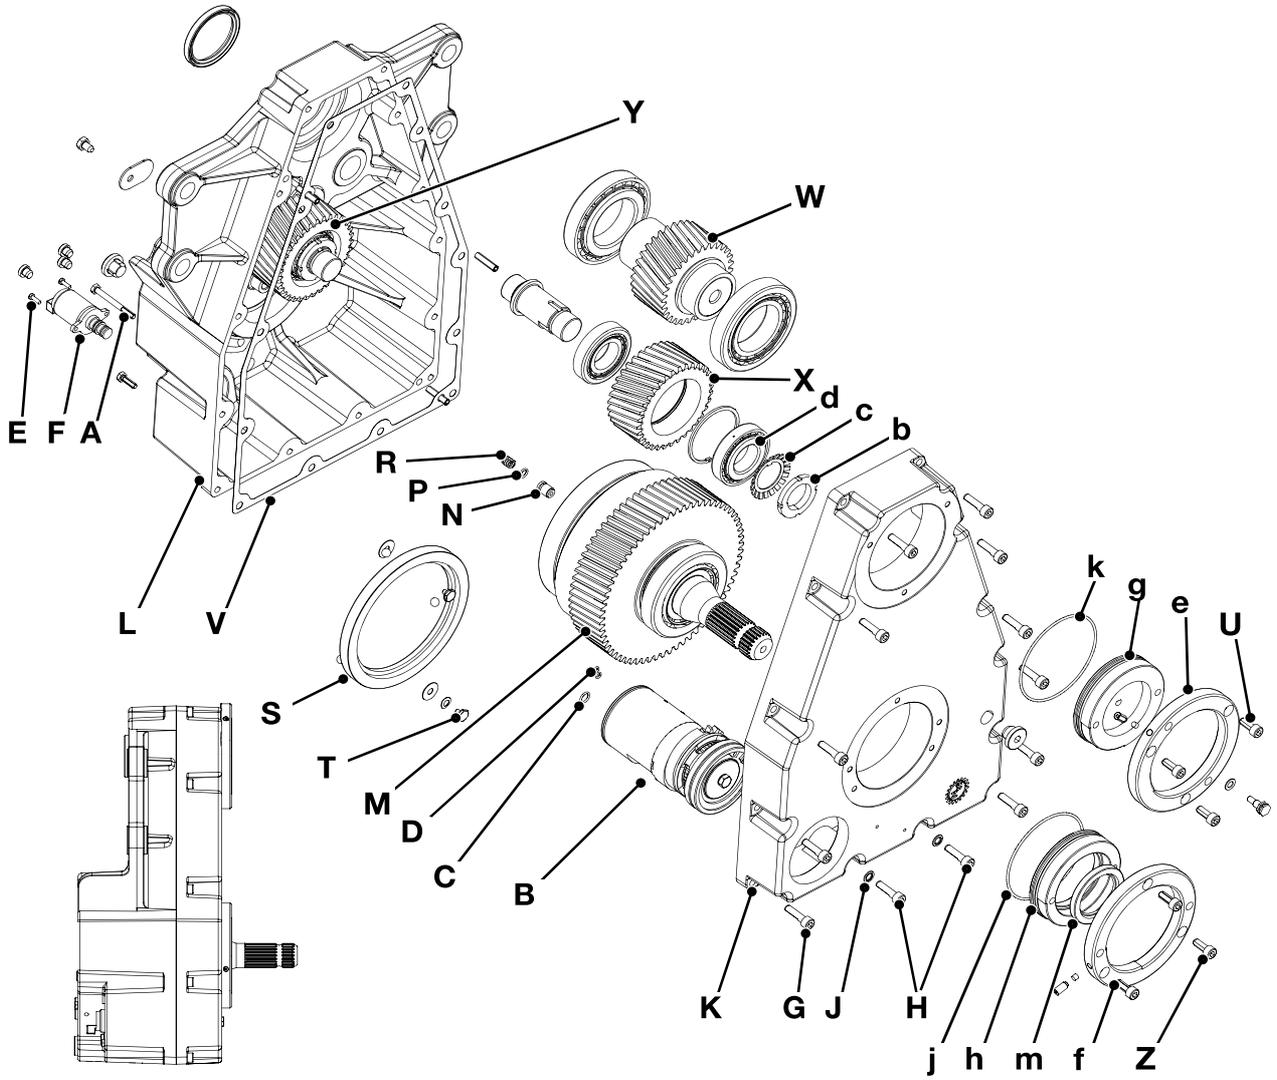

Fig 4.
- 4 Check the condition of surface **R** which contacts bronze bush **N** ⇒ Fig 4. \(A-3\) If this surface is damaged, renew the complete clutch assembly.